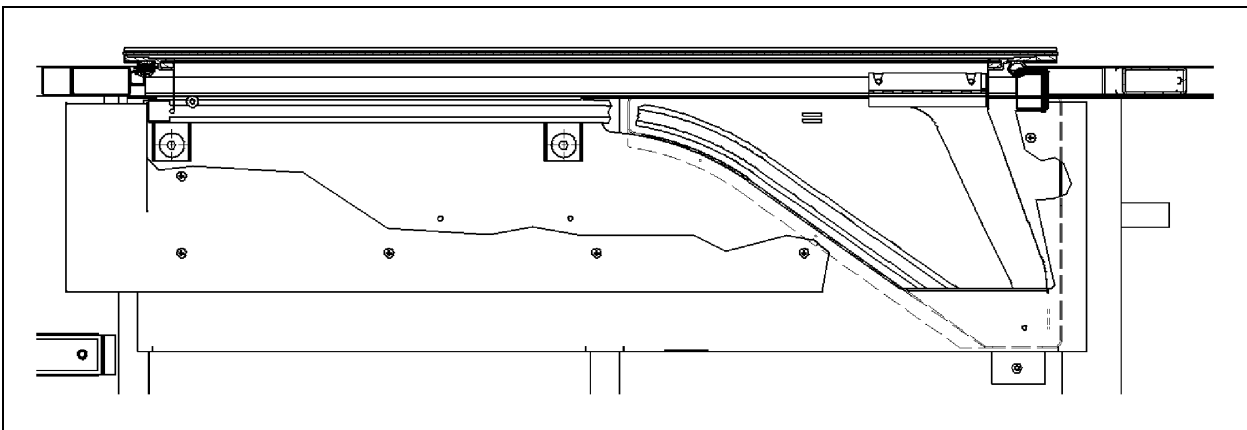

FIGURE 75: WCL LOWER RAIL INSTALLATION
2. Slide the top rail into the upper arm then bolt the rail to the structure. Do not fully tighten (Refer to Figure 75).